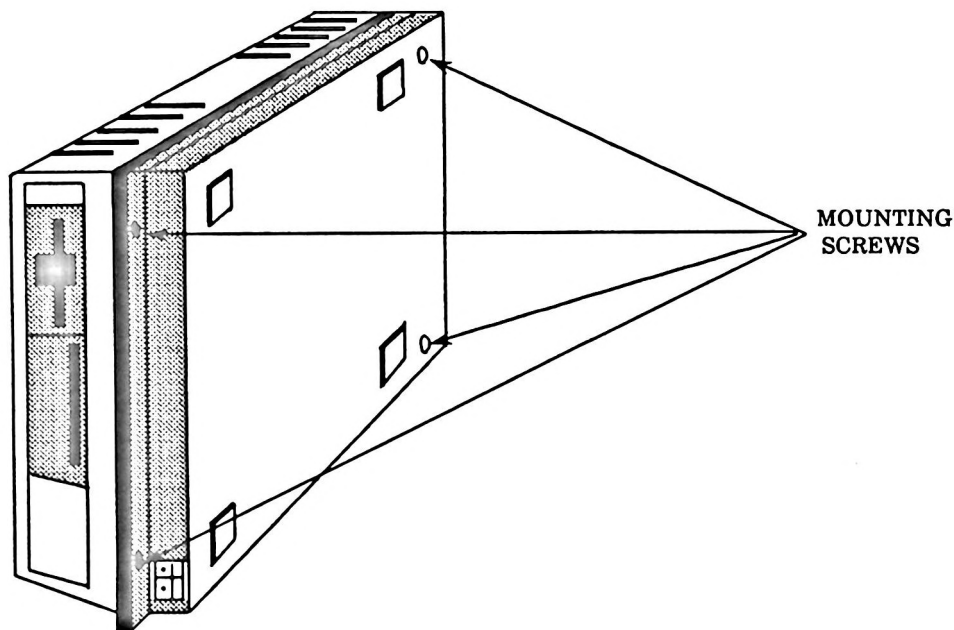

Figure 5-4. Mounting Screws for the Top Cover
3. While holding the chassis in this upright position with one hand, loosen and remove the four #6 screws shown in Figure 5-4. Save these screws.